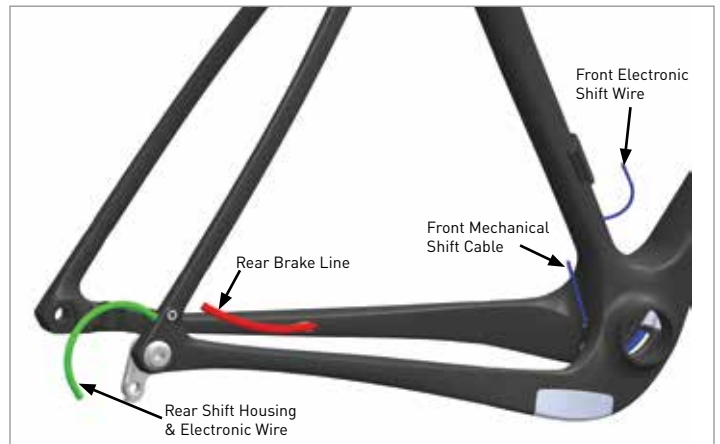

Figure 3
4. Wiring for a FRONT DERAILLEUR will come up from the junction box in the bottom bracket shell to the small port below the front derailleur and seat tube waterbottle mounting holes (Fig. 3).
5. Wiring for the REAR DERAILLEUR will come from the junction box in the bottom bracket shell through the tunnel that exits at the back of the driveside seatstay (Figs. 3 & 4).